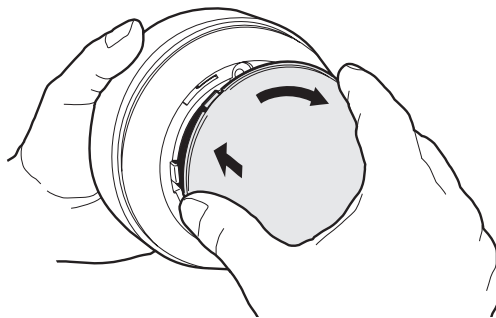

Figure 18. Installing the Bubble
2. Install the bubble (refer to Figure 18):